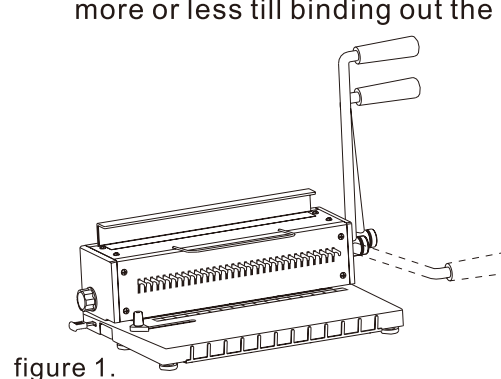

figure 1.
4. Press down the punching handle for punching. Then pull it up back to the beginning position. the punching process finished. (see figure 1)